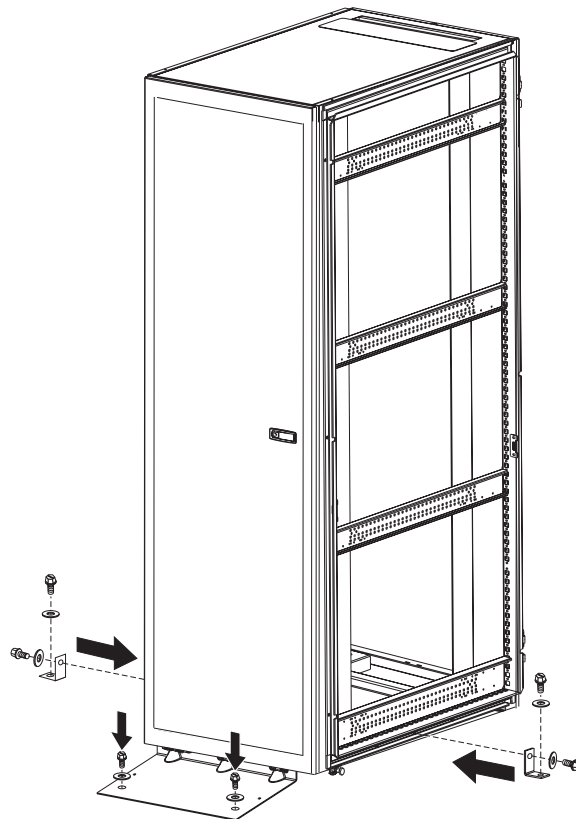

Figure 7. Installing the side stabilizer brackets and bolting the rack to the floor surface
- b. Attach the side stabilizer brackets to the center cage nut on each side of the rack with the hex bolts and washers (see Figure 7 on page 9). The stabilizer brackets, bolts, and washers come in the hardware kit.
5. Bolt the rack to the floor surface through the holes in the front and side stabilizer brackets (see Figure 7 on page 9) and reinstall the side panels.